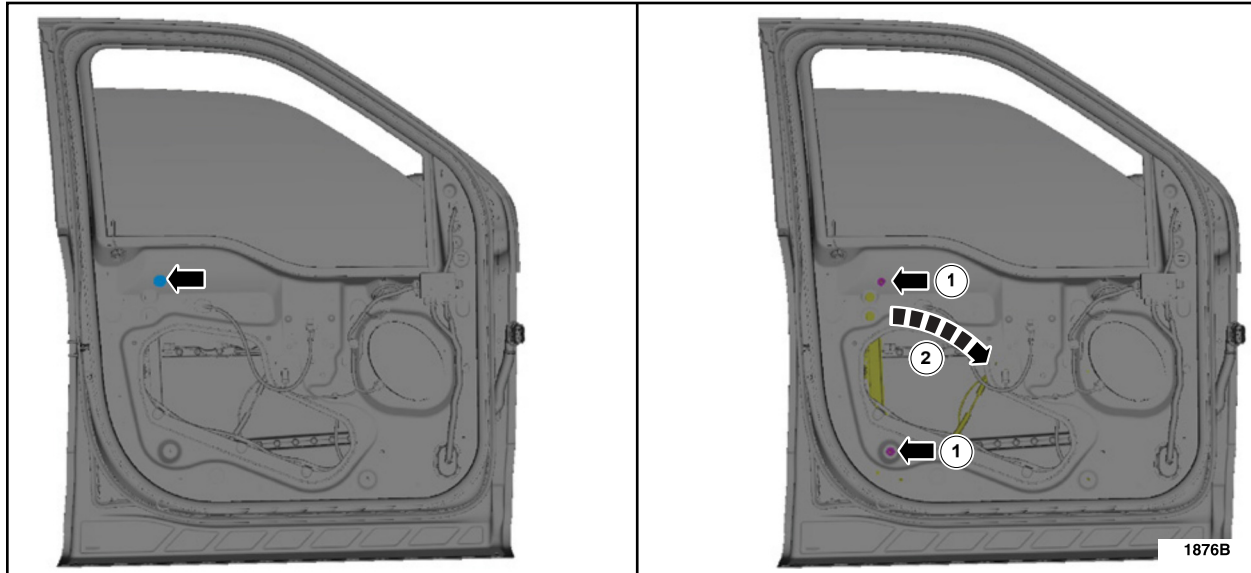

FIGURE 6
8. Remove the latch side front door window regulator nut adhesive cover and position the latch side front door window regulator aside. See Figure 6.